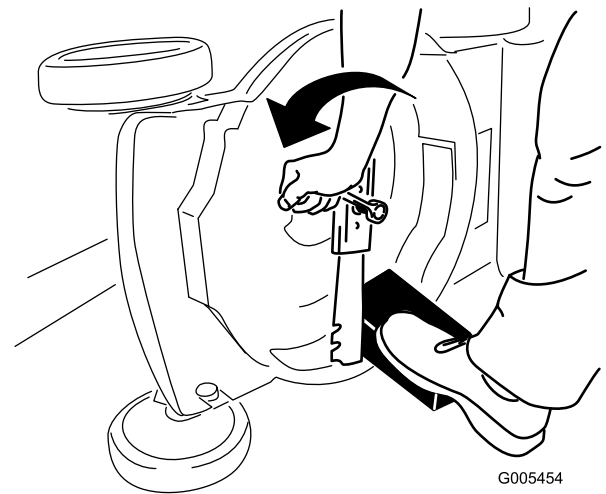

Figure 36
3. Use a block of wood to hold the blade steady (Figure 36).
4. Remove the blade, saving all mounting hardware (Figure 36).